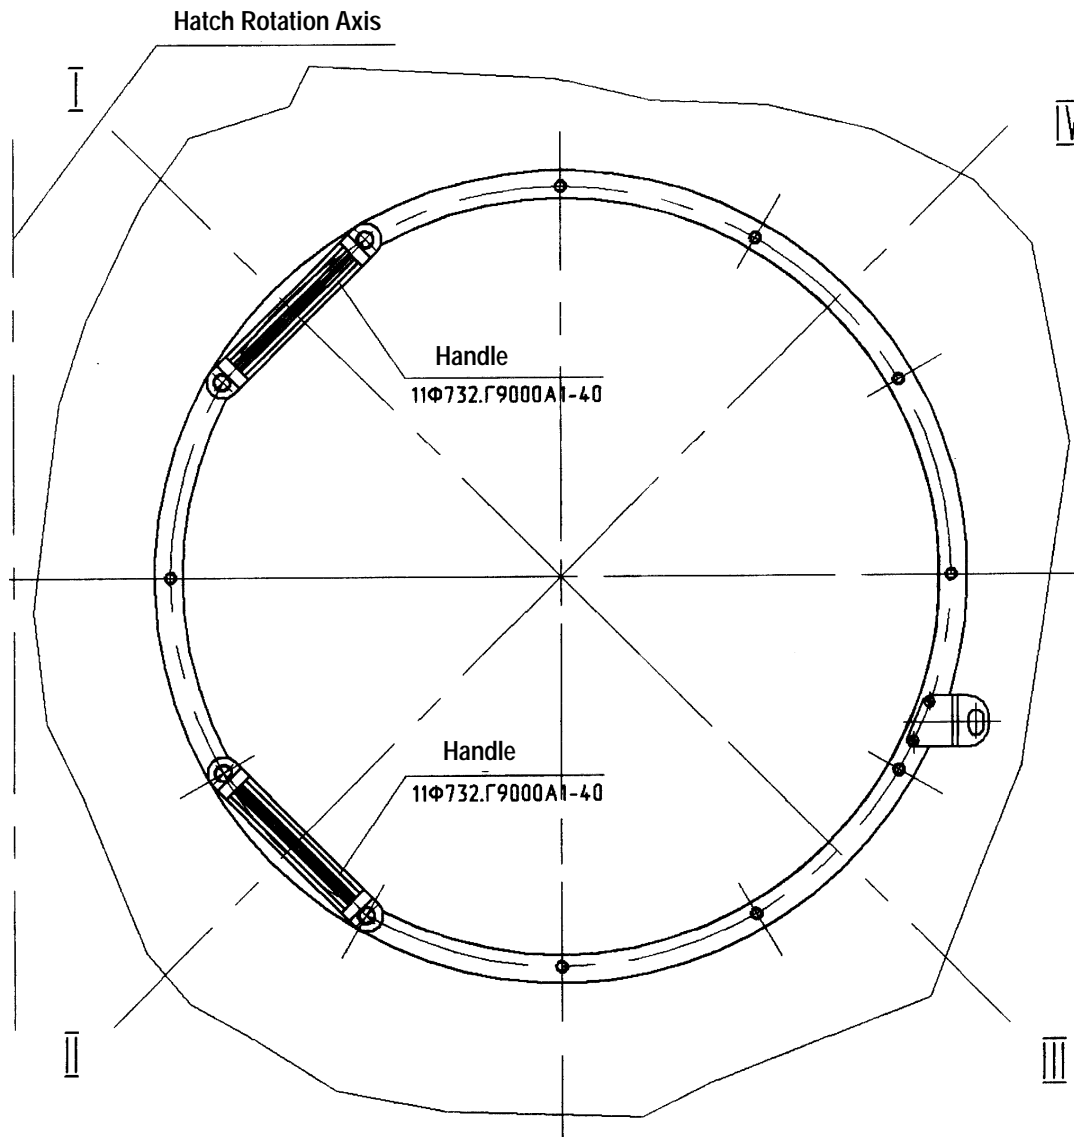

Figure 11.1-1. 11Φ732.Γ9000A1-40 Hatch Handles Installation on Hatch 11Φ732.9000A1-0 after Docking Mechanism Removal
11. Install handles 11Φ732.Γ9000A1-40 (two) onto hatch by inserting them into docking mechanism mounting bushings on the hatch rotation axis side (two captive bolts on each handle, 12 mm Combo wrench) (see Figure 11.1-1)